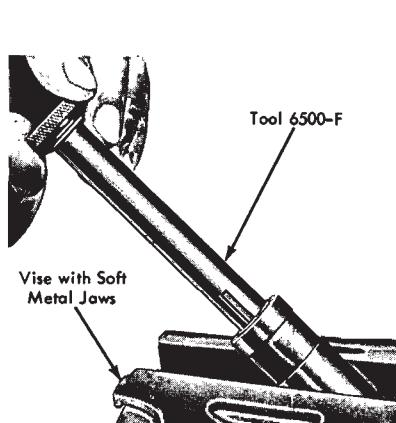

FIG. 31—Removing Lifter Plunger
2. Remove the push rod cup. Remove the plunger (Fig. 31) and plunger spring.